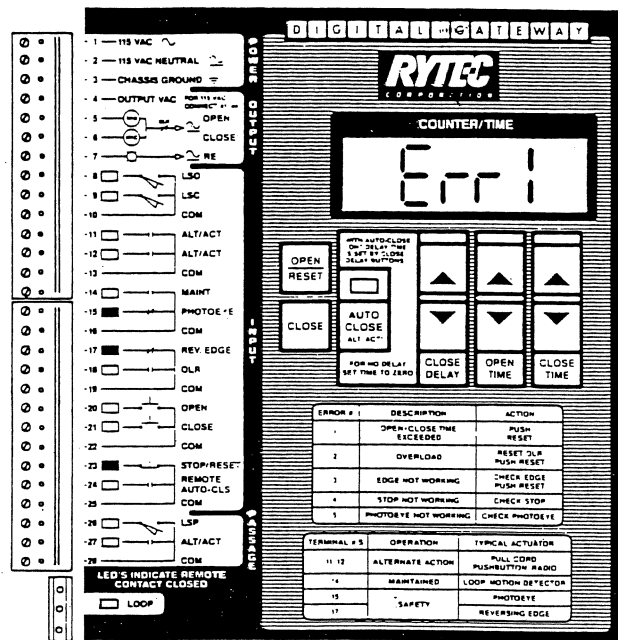

Figure 11.
7.1 Error 1 (Err 1) — see Figure 11